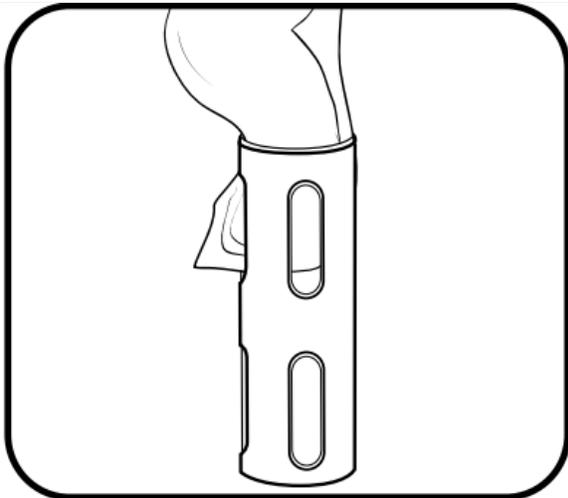

Figure 21. Use a cloth to remove minimal biofouling [Source: [ER \[021\]](#)]
**STEP 2** | If the guard contains a thin layer of slime or filaments, wipe away the biofouling with a cloth soaked in clean water and a few drops of a dishwashing liquid that contains a degreaser (**Figure 21**).